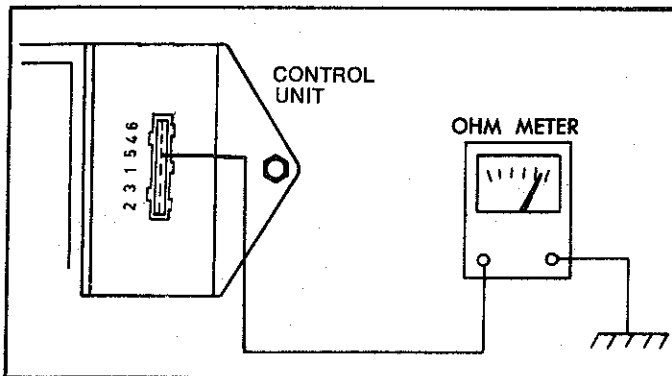

Fig. 5—Checking control unit earth
- (1) Ensure that the ignition switch is in the "off" position.
- (2) Remove the multi-wiring connector from the control unit.
- (3) Connect one ohmmeter lead to a known good earth.
- (4) Connect the other ohmmeter lead to the Control Unit No. 5 connecting pin. (Refer Fig. 5).